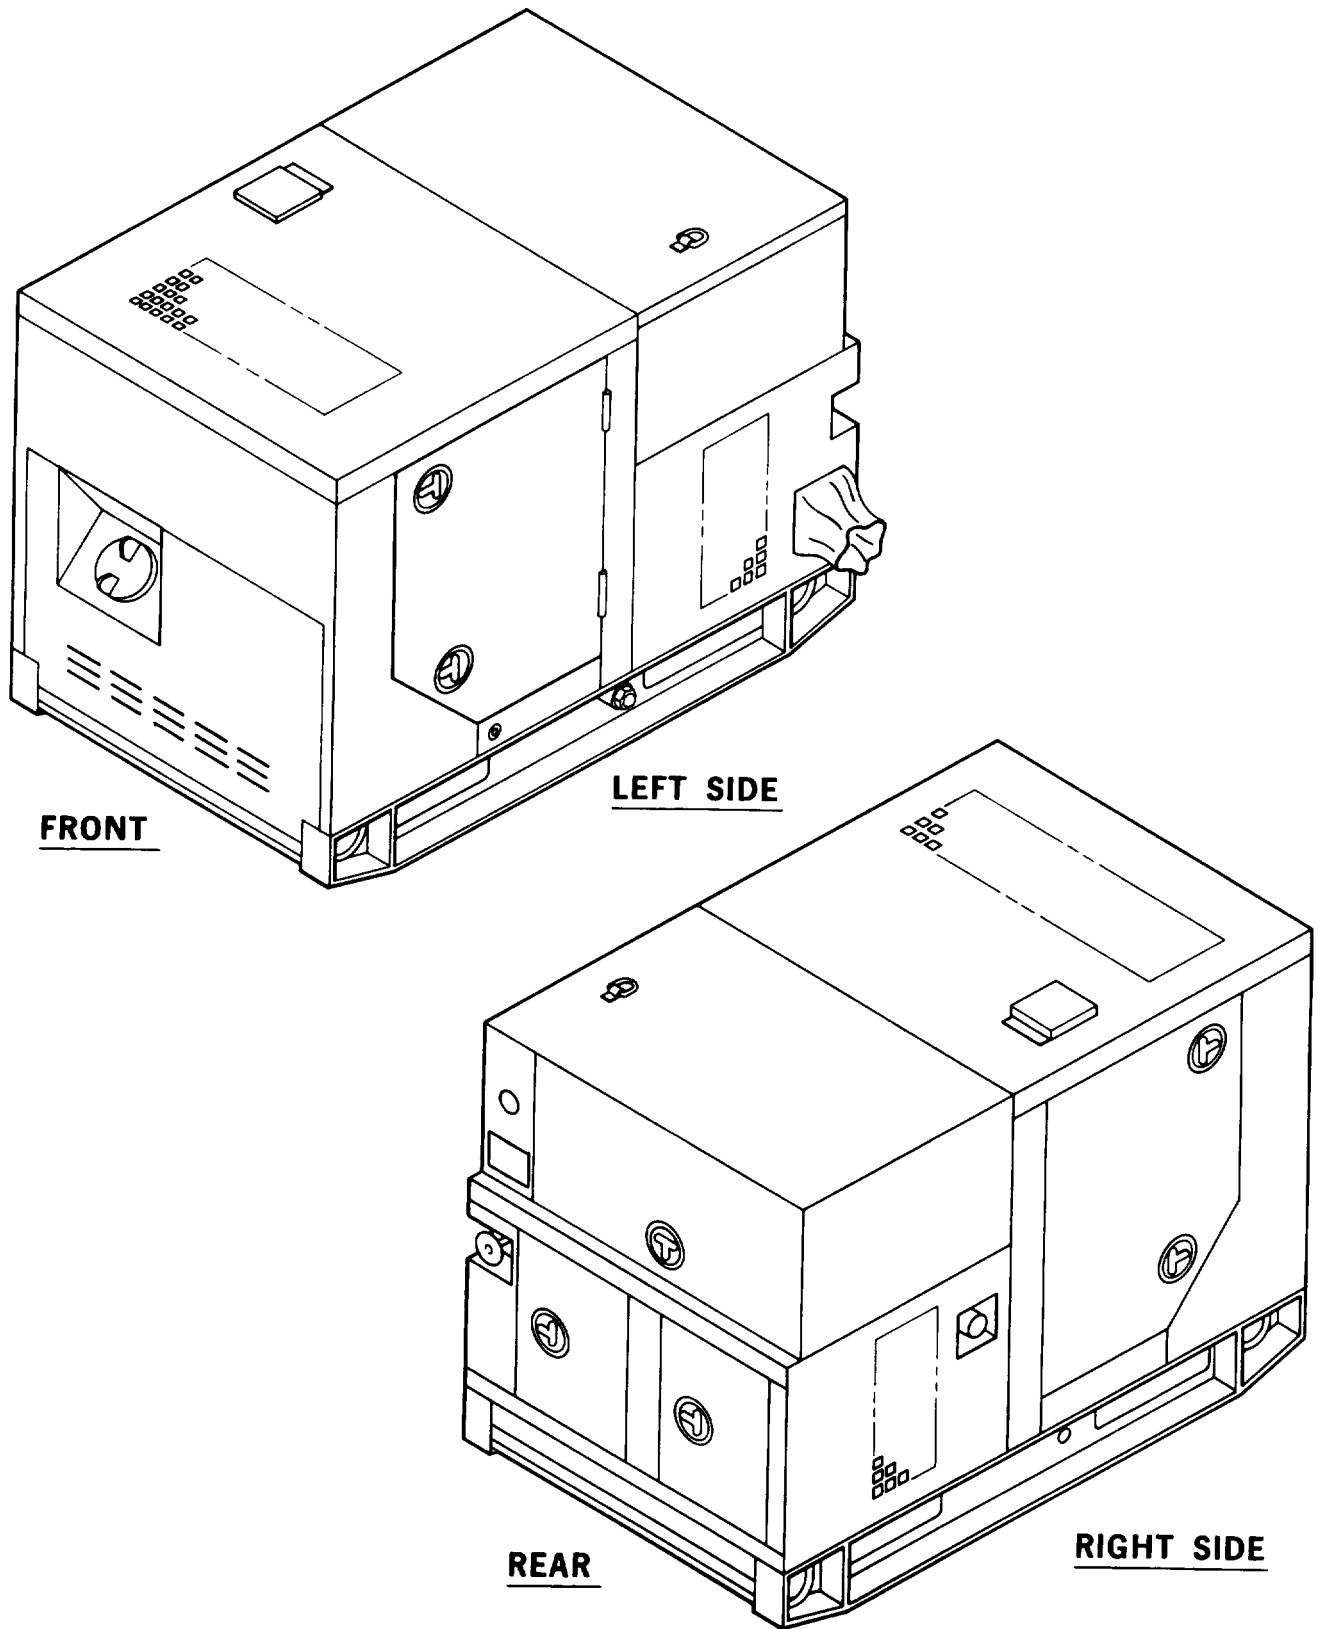

FIGURE 1-1. Generator Set, 5 kw, Tactical Quiet
1-1.1 Type of Manual. This manual contains operation and operator maintenance instructions for the Tactical Quiet (TQ), 5 kW 60 and 400 Hz Generator Sets (FIGURE 1-1), herein referred to as generator set. Included are descriptions of major components and their functions in relation to other components.